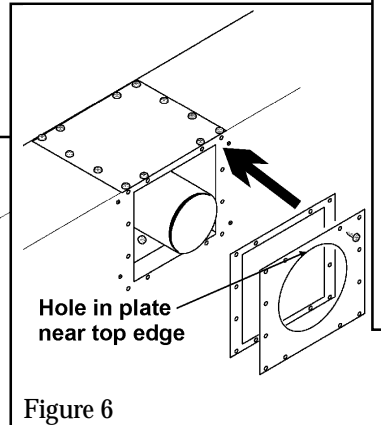

Figure 6
2. Fit the rear cover plate (supplied with the kit) using the seal and 12 screws previously removed. The hole in the cover plate must be nearest the top edge (See figure 6).